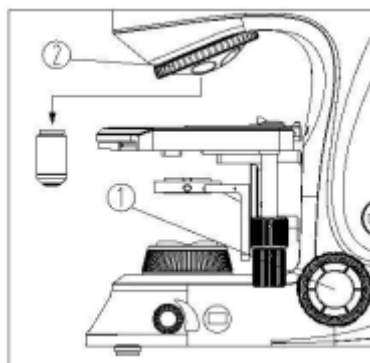

Figure 4
1. Rotate the coarse focusing knob (①) to lower the stage to an appropriate position.
2. Install the objectives onto the nosepiece (②) in a clockwise direction, starting from the lowest magnification to the highest. (See Fig. 4).